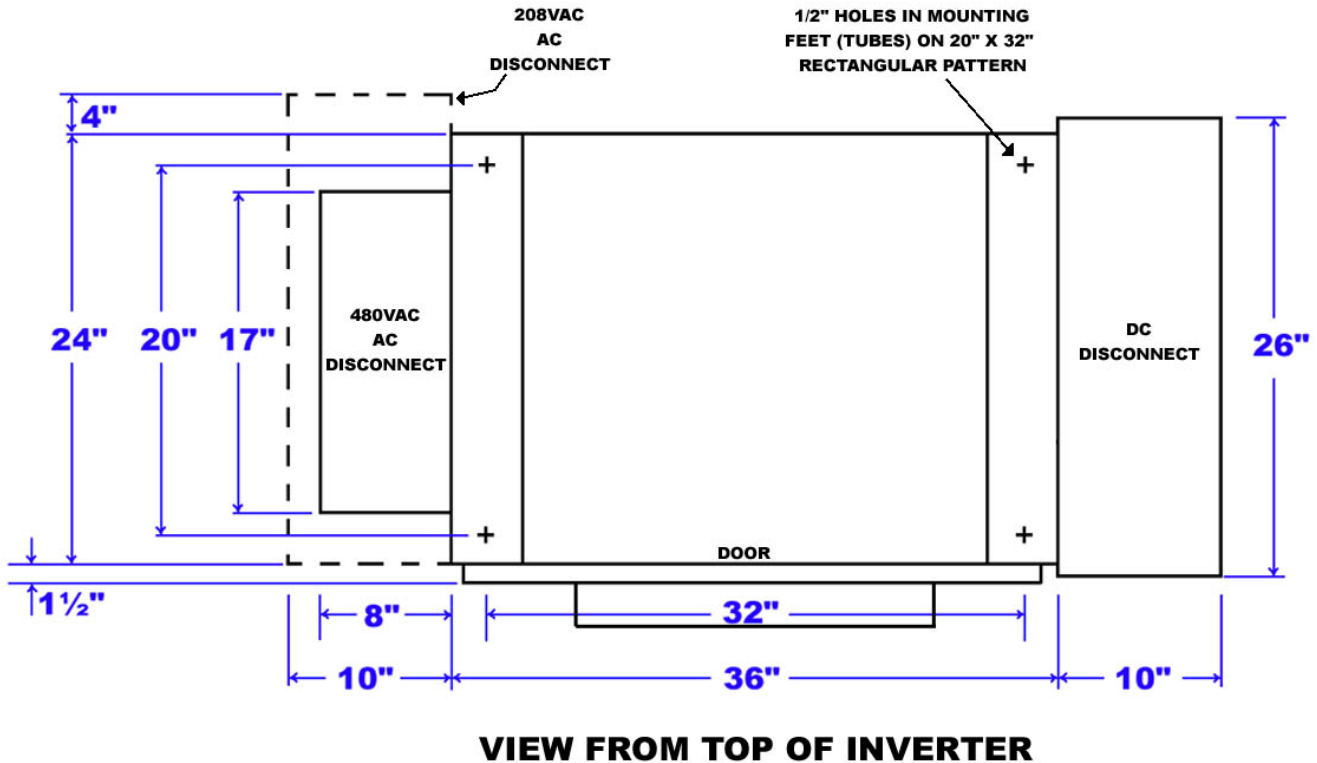

Fig. 2.2 PVI 60KW, PVI 82KW AND PVI 95KW Mounting Hole Diagram
- Install the inverter in an accessible location following NEC (or Canadian Electrical Code if Canada) codes for enclosure and disconnect door clearances and proximity to other equipment. (See mounting diagram, Fig. 2.2)
Using the mounting diagram Fig. 2.2, choose whether floor/roof or concrete pad mounting will be used. The inverter includes mounting feet with 4 holes (1/2", 12mm diameter) on a 20" x 32" rectangular pattern for attaching the inverter. Note that these 4 mounting holes are 2" inside each corner of the main inverter enclosure dimensions which are 24" x 36".